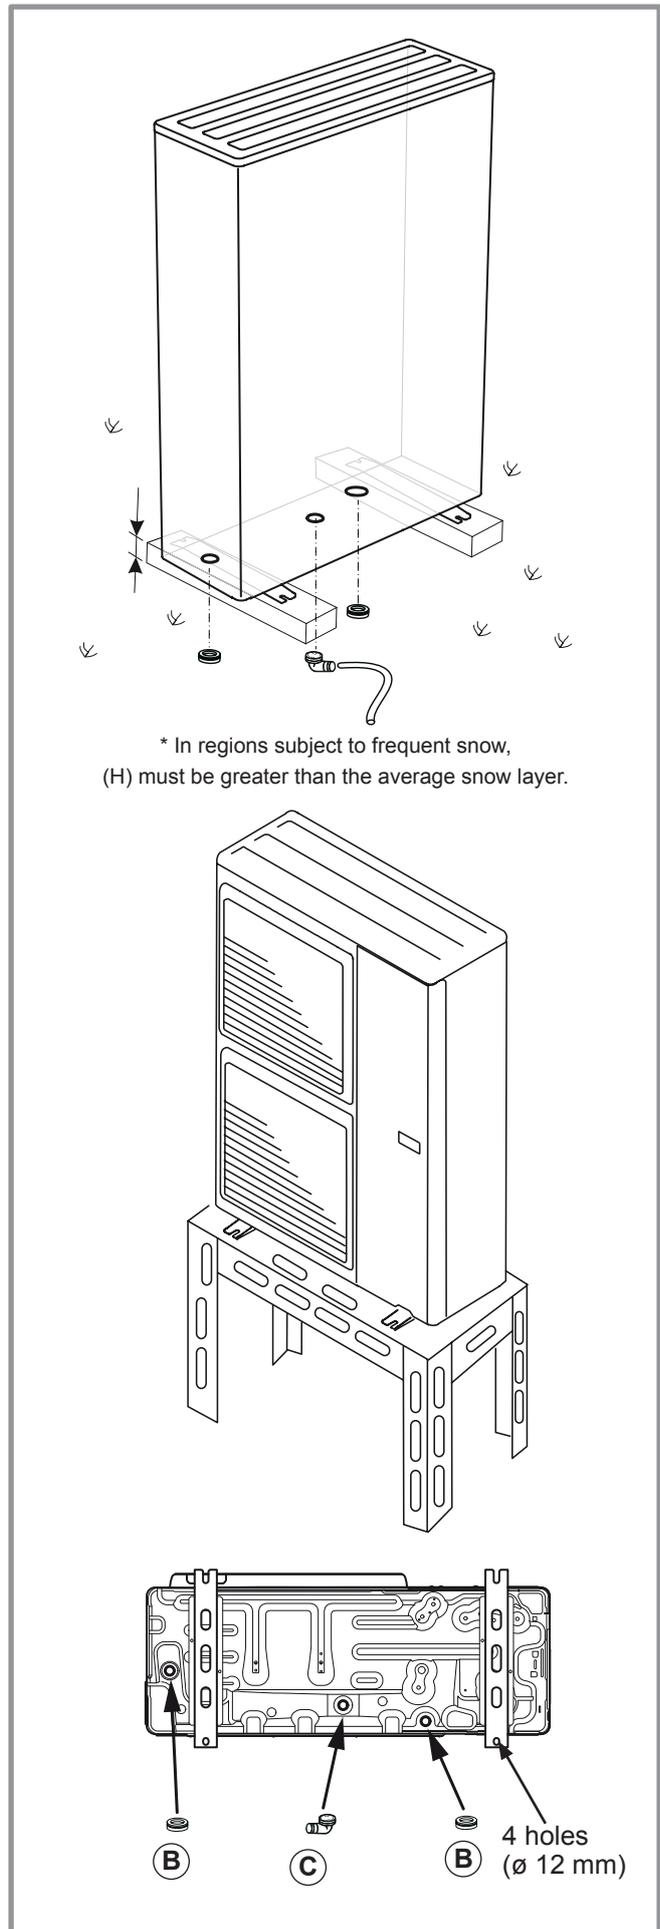

figure 12 - Positioning of the outside unit, draining away the condensate
- Water may drain away from the outdoor unit when it is operating. Do not install the appliance on a paved terrace; choose a well-drained place (e.g. gravel or sand). If the installation is in an area where the temperature can be lower than 0°C for a long period, check that the presence of ice does not present any danger. A drainage pipe can also be connected to the outdoor unit (figure 12, page 14).
The outdoor unit must be raised at least 50 mm above ground level. In areas prone to snow, this height should be increased but should not exceed 1,5 m (figure 12).
(see figure 12).